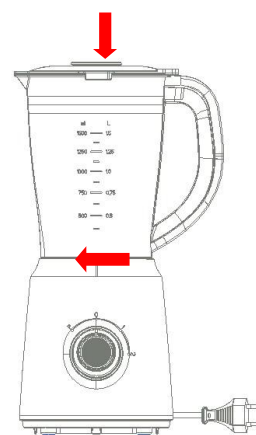

Fig. 1
1. Place the Jar on the **Motor Unit**, Turn the jar clockwise until a click will be heard when locked into position properly. Please see Fig.1.